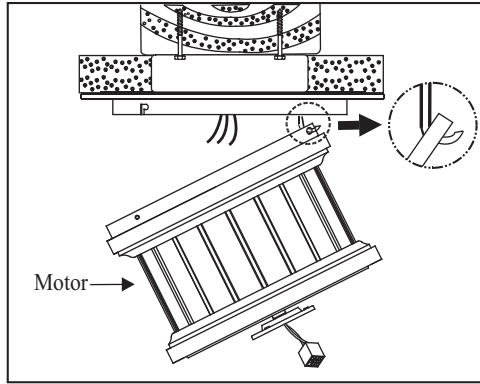

Figure 5
2. Lift fan into position by hanging the motor assembly onto the hook from the ceiling mounting bracket allowing it to hang freely (Fig. 5).